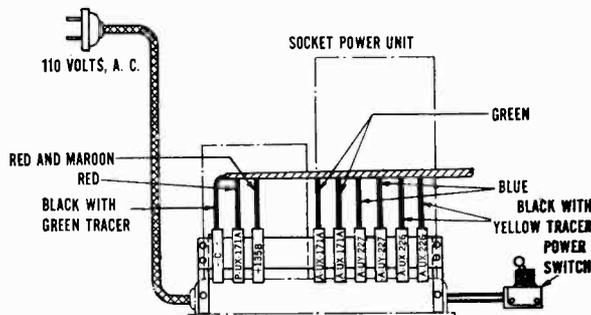

Fig. 4—Socket Power Unit Terminals
A. FILAMENT SUPPLY—Test the filament voltage across each of the three pairs of filament binding posts shown in Fig. 4, using either the Weston Type 537 Tester or a separate A. C. voltmeter of the proper scale reading. The following are the correct meter readings which should be obtained:
B. PLATE SUPPLY—Using the high range voltmeter binding posts of the set tester or the high range scale of the separate D. C. voltmeter, test between one of the A-UX-226 terminals and the +135B terminal (see Fig. 4), and between one of the A-UX-171-A terminals and the P-UX-171-A. The following are the approximate readings which should be obtained.